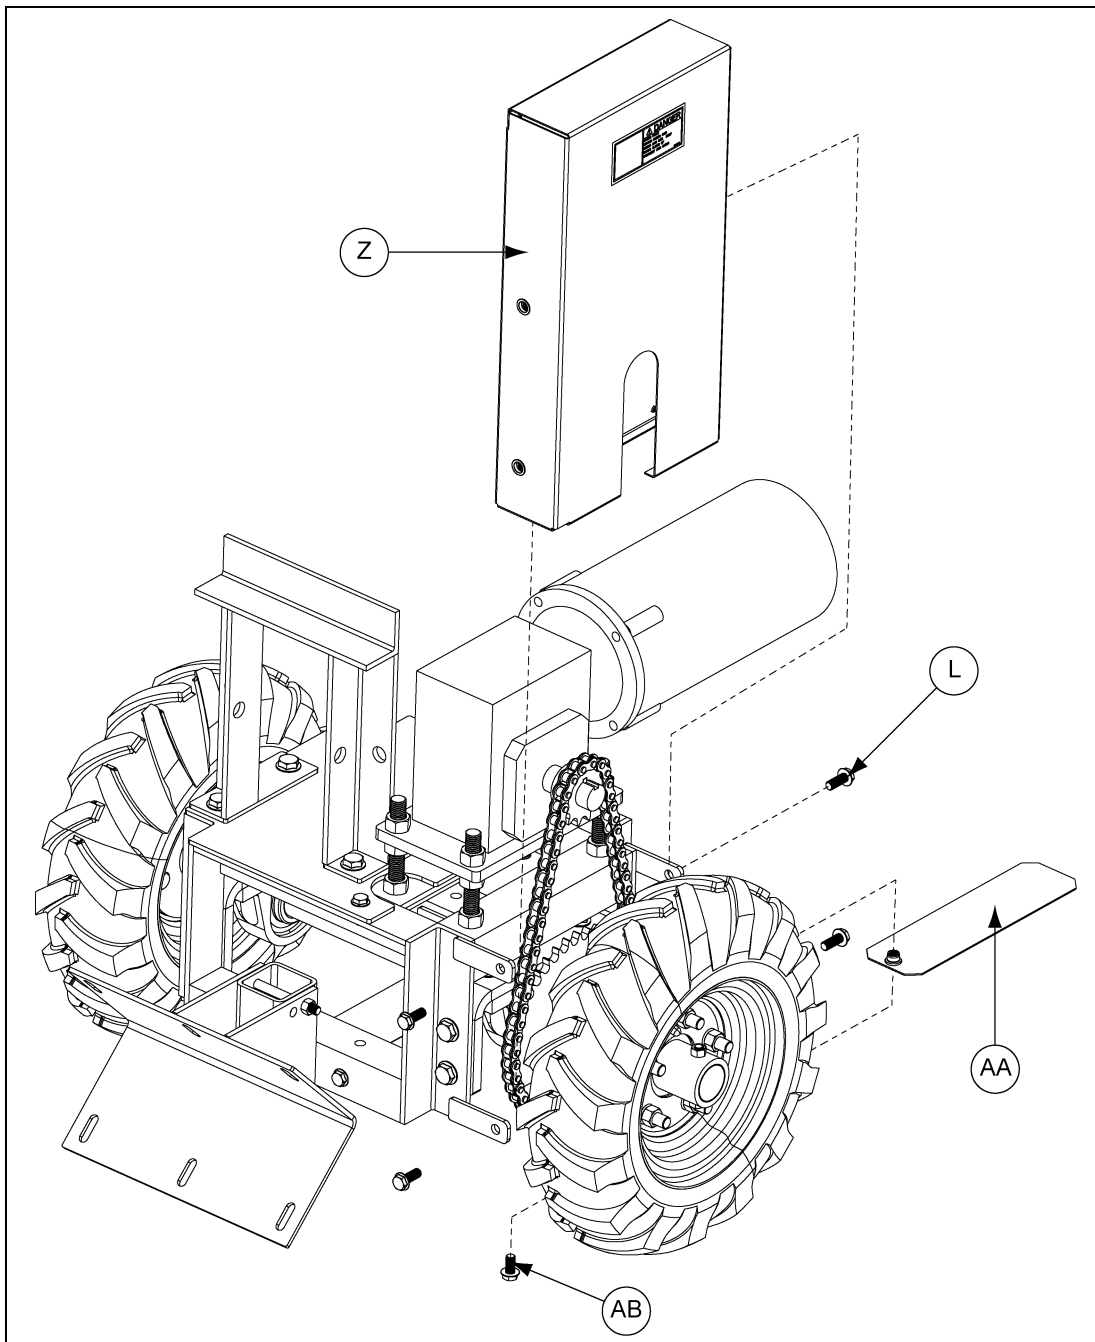

Figure 4Y
20. Install the top chain guard assembly (Z) to the tractor frame using four (4) 3/8"-16 x 1" flange bolts (L). Slide the bottom chain guard assembly (AA) through the slot on the top chain guard and secure it with a 3/8"-16 x 3/4" flange bolt (AB). *(See Figure 4Y.)*